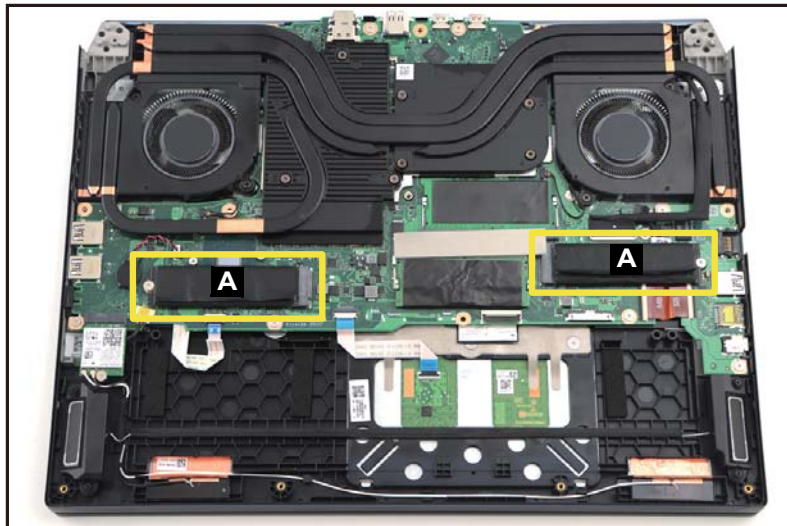

Figure 1-9. SSD Modules Location
1. Find the SSD modules (A) on the top assembly (Figure 1-9).